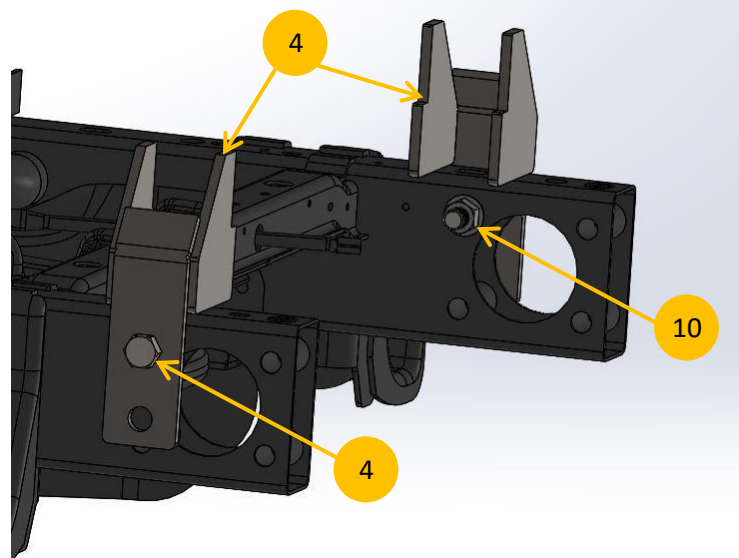

Figure 8
6. Position rear level loks (**ITEM 4**) at the rear of the vehicle frame. Use the upper hole in the vehicle frame that is closest to the cab as shown in the picture. Insert one (1) $\frac{3}{4}$ " x 4-1/2" bolt (**ITEM 8**) through each of the rear level loks, through the vehicle frame bushing and out to the inside of the vehicle frame. Thread a $\frac{3}{4}$ " flange nut (**ITEM 10**) onto each of the $\frac{3}{4}$ " bolts and tighten. **Figure 8**